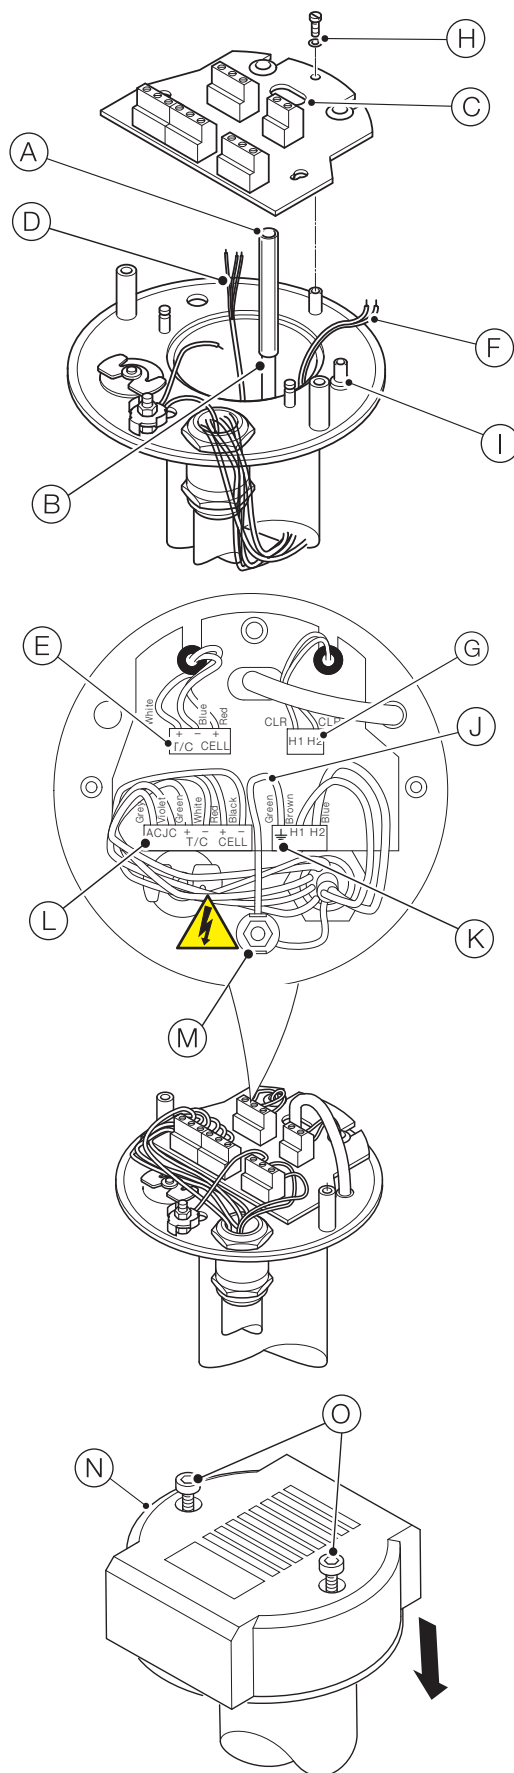

Fig. 5.6 Connecting the sensor sub-assembly
Referring to Fig. 5.6:
Green (internal earth between earth stud and earth connection on terminal (K)). Drain wires (twisted pair from cable) connected at sensor earth stud	The internal earth wire (including clamp washer must be secured at the earth stud and connected at the (green) earth connection of terminal (K) – see Fig. 5.6.